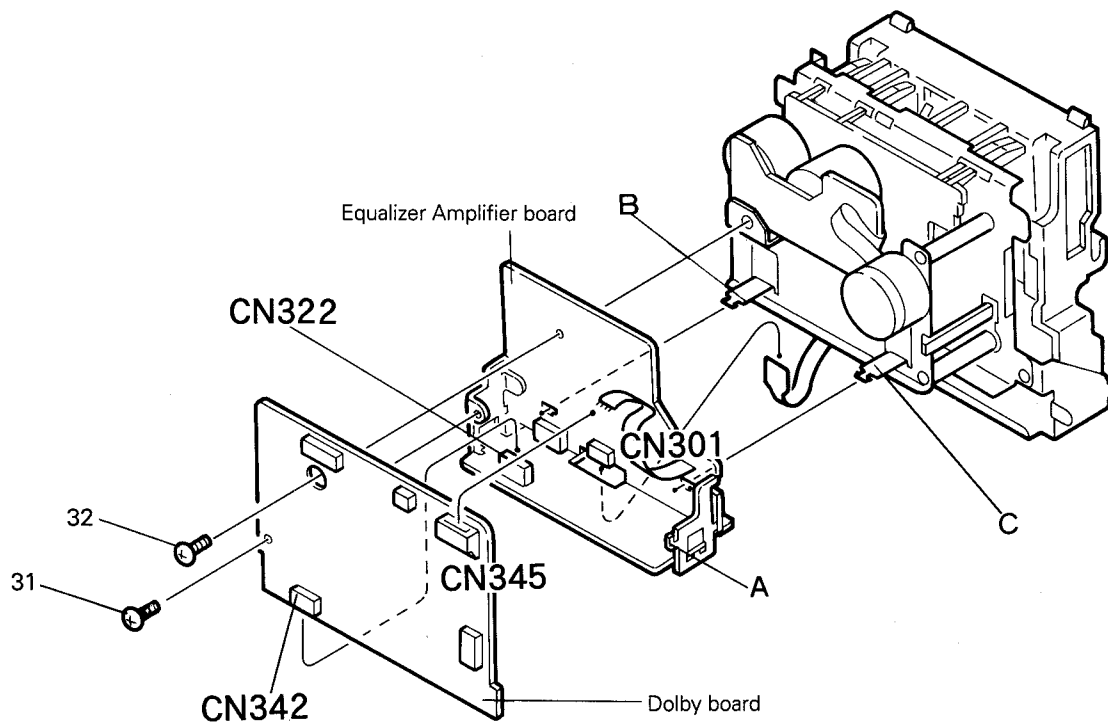

Fig. 7-6
■ Dolby board (Fig. 7-6)
2. Remove a screw (31) retaining the Dolby board to the cassette mechanism assembly.
3. Disconnect connection between the connectors CN332 of the Equalizer Amplifier board and the connector CN342 of the Dolby board, and disengage the pawl (A) of the board bracket.
■ Equalizer Amplifier board (Fig. 7-6, 7-7)
1. Remove a screw (32) retaining the Equalizer Amplifier board to the cassette mechanism
4. Remove two screws (30) retaining the Equalizer Amplifier board to the board bracket.
6. Remove a screw (34) retaining the Bias Osc. board.